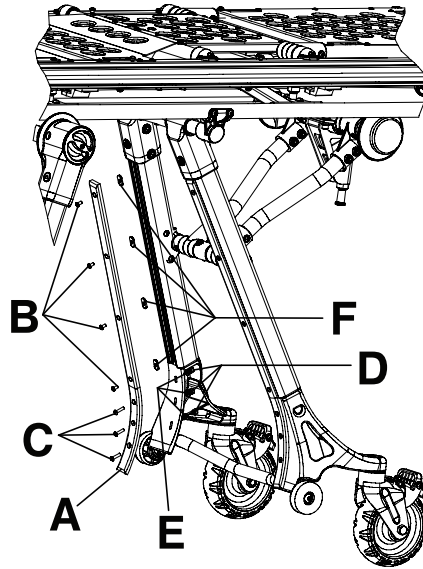

Figure 6 – Base wear strip replacement - Back leg assembly
1. To remove the worn wear strip (A): Using a T25 Torx wrench, remove the four button head cap screws (B) and weld nuts (C) (Figure 6). Save the weld nuts and button head cap screws. Discard the worn wear strip.
2. Using a 1/8" Allen wrench and a 3/8" open wrench, remove the button head cap screws (C), nuts (D), and washers (E) (Figure 6). Discard the worn wear strip. Save the fasteners for reuse.
3. Assemble the button head cap screws (C) that were removed in step 1 through the new wear strip. Thread the weld nuts (F) onto the button head cap screws and tighten them one to two turns (Figure 6).
4. Align the three lower holes of the wear strip to the leg assembly and attach it with the button head cap screws (C), nuts (D), and washers (E) (Figure 6). Tighten the button head cap screws securely.